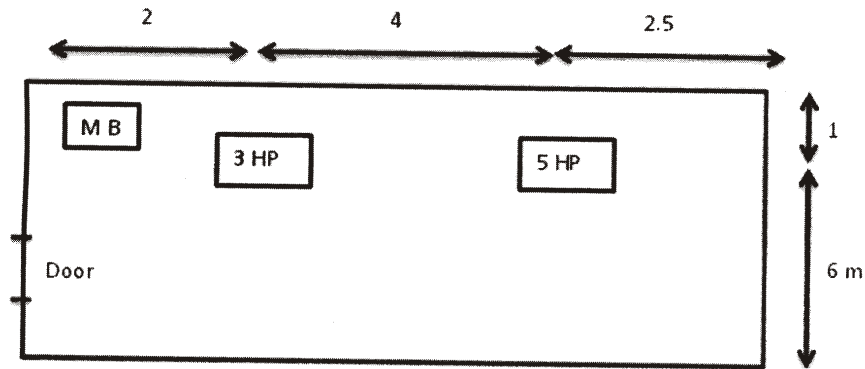

Fig. 2 : Plan of work
- \* 14. Two 3-phase, 400 V induction motor are installed in a workshop of plan shown in Fig. 2 :